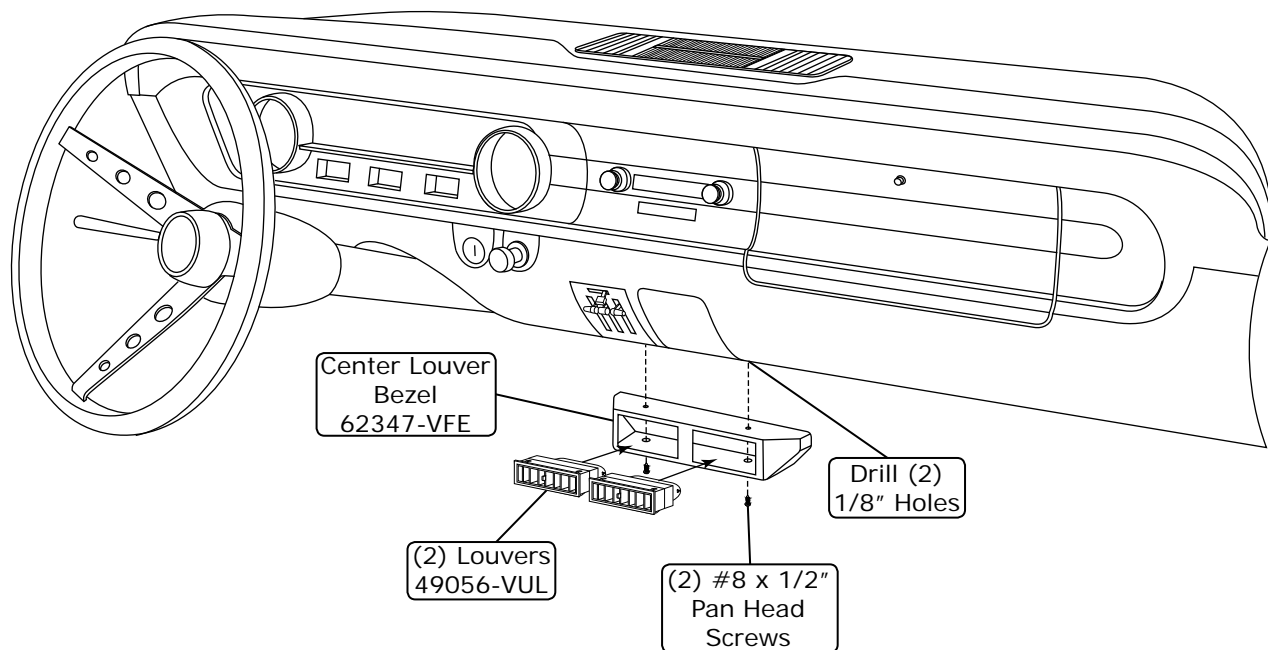

Figure 13
1. Drill (2) 1/8" holes, and install the center louver bezel under the dash using (2) #8 x 1/2" pan head screws as shown in Figure 13, below.
2. Insert the louvers into the center louver bezel as shown in Figure 13, below. **NOTE: It may be helpful to attach the duct hoses to the louvers (See Pages 18 and 19) before inserting the louvers into the bezel.**